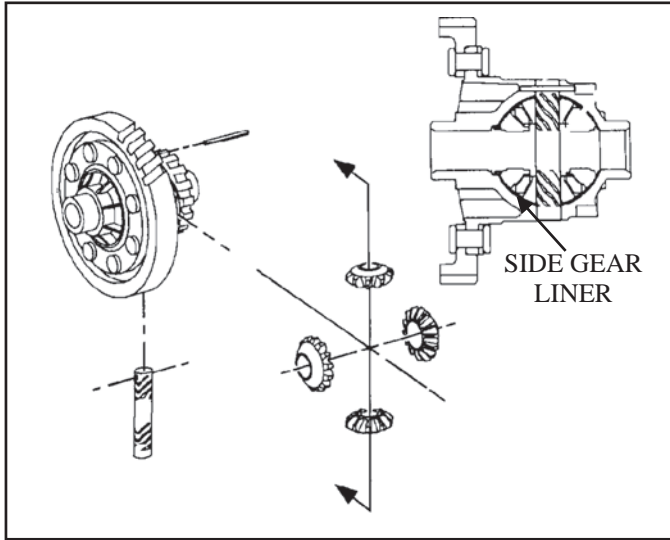

Figure 157
1. Using a suitable drift pin, drive the roll pin from the differential housing and remove the pinion shaft and side gears (See Figure 157).
2. Rotate the pinion gears and remove them from the housing (See Figure 157).